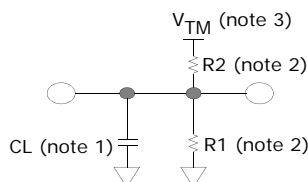

Figure 32. AC Output Load
- Output load (See Figure 32): CL= 30pF+1TTL